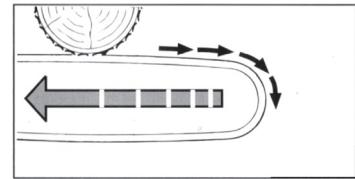

Fig. 4
- Close the guide cover, turn the locking nut slightly to set the cover it in place but do not tighten it (Figure 4).